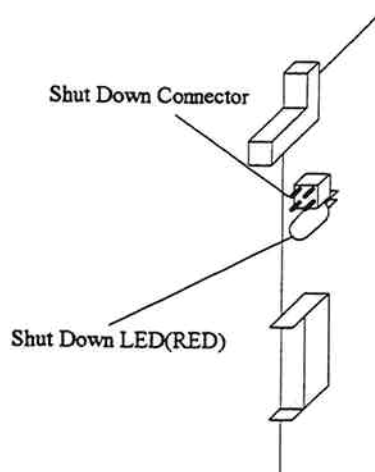

Fig. 3.7.3.3-1 Shut Down LED
- a. Confirm that the Shut Down LED lights.(Fig. 3.7.3.3-1) If the LED does not light, see Connection of Shut Down Jumper(INST03-2600).